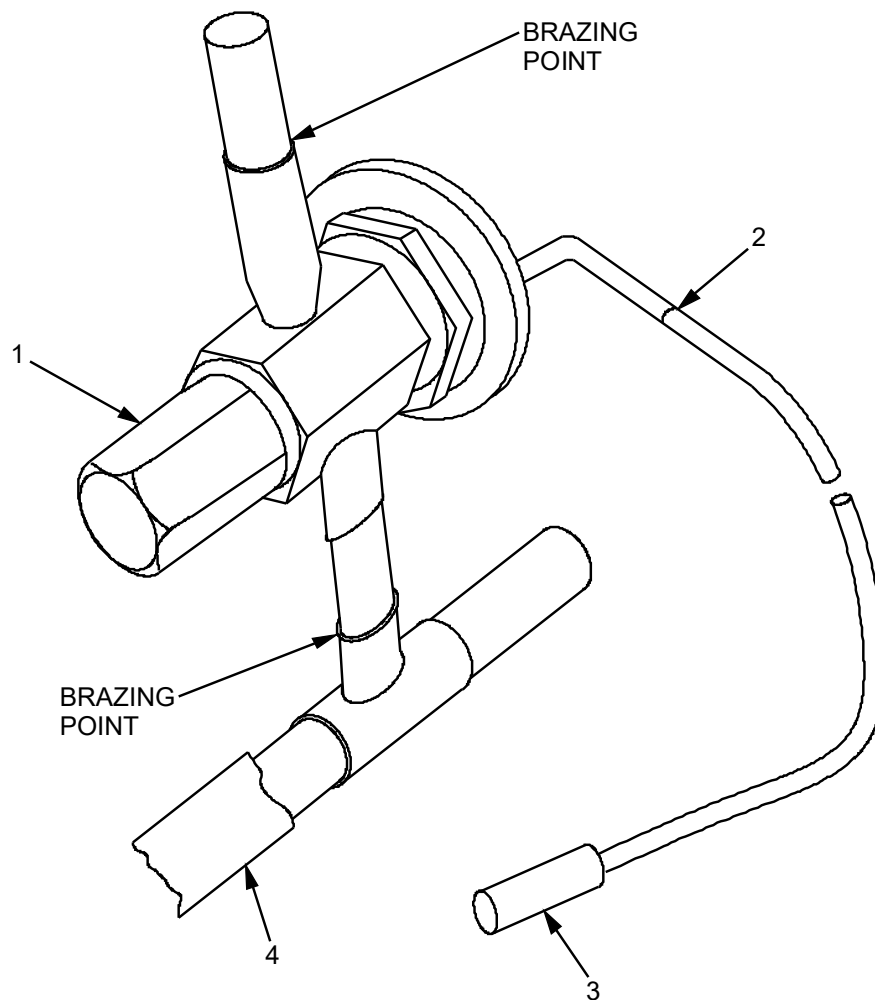

Figure 2. Quench Valve Replace.
3. Remove insulation (Figure 2, Item 4) from quench valve (Figure 2, Item 1), sensing bulb (Figure 2, Item 3), and surrounding pipes to safely allow brazing.
5. Debraze quench valve (Figure 2, Item 1) at brazing points (see Figure 2). If necessary, refer to WP 0115 for brazing procedures.
6. Remove and retain any copper hose clamps securing distribution tube (Figure 2, Item 2) and sensing bulb (Figure 2, Item 3) to surrounding pipes.
7. Remove quench valve (Figure 2, Item 1) distribution tube (Figure 2, Item 2) and sensing bulb (Figure 2, Item 3).
1. Install quench valve (Figure 2, Item 1).
2. Wrap wet rag around quench valve (Figure 2, Item 1), distribution tube (Figure 2, Item 2), and sensing bulb (Figure 2, Item 3) to prevent damage from overheating.
3. Braze quench valve (Figure 2, Item 1) into place. If necessary, refer to WP 0115 for brazing procedures.
4. Run distribution tube (Figure 2, Item 2) and sensing bulb (Figure 2, Item 3) to suction line of evaporator coil clamping into place as required.
5. Install insulation (Figure 2, Item 4) onto sensing bulb (Figure 2, Item 3) and surrounding pipes.
6. Remove wet rag from around quench valve (Figure 2, Item 1).